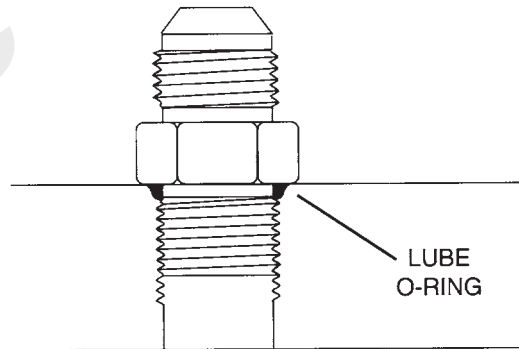

FIGURE 1-9
2. Lubricate O-ring with clean oil (Figure 1-9).